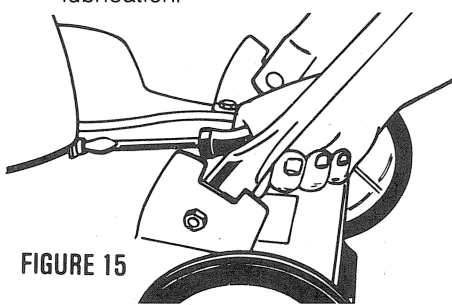

FIGURE 16
- Remove the motor cover as follows: (a) Loosen the mounting screw at rear of the motor (Figure 15). (b) Carefully push in on the forward cover locating tab (Figure 16). (c) Tilt cover forward (toward tabs) and remaining tab will come free as cover is lifted off.